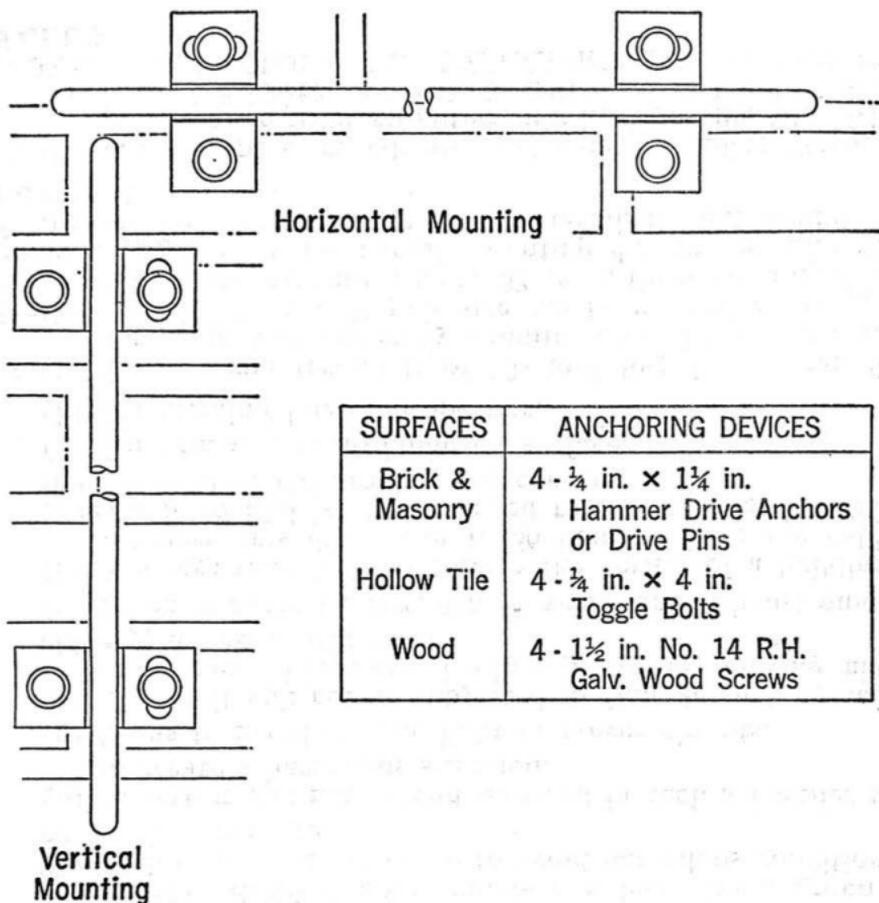

Fig. 10
- (1) Attach the 51B Bracket to the wall as shown in Fig. 10.